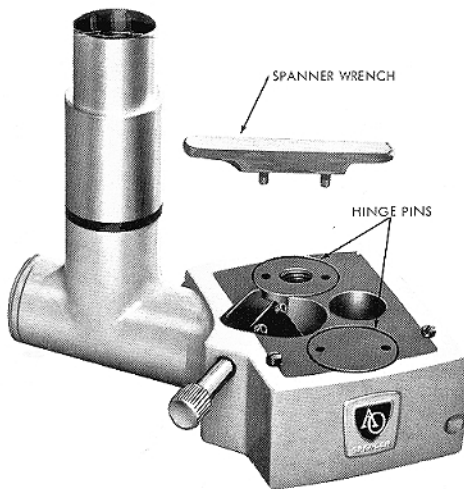

FIG. 1. Model 638 Photographic Tube
The American Optical Photographic Adapter (figure 1) is designed specifically for use with AO Spencer Cycloptic Series Microscopes. It may be used in conjunction with a Series 682 Photomicrographic Camera or other similar general purpose photomicrographic cameras. The spanner wrench is supplied to facilitate assembly of the Single Tube Photographic Adapter to the Cycloptic Microscope. An AO No. 146 10X Wide Field or No. 147 15X Wide Field Eyepiece should be available for insertion into the Photo Tube Adapter.
1. Loosen hinge pin (B) on top of prism body (C) with spanner wrench.
3. Place adapter (A) in position on microscope body (F) as shown.
4. Engage the two hinge pins (figure 1) in the proper openings and tighten with spanner wrench.
5. Install Binocular body (C) on top of the adapter.